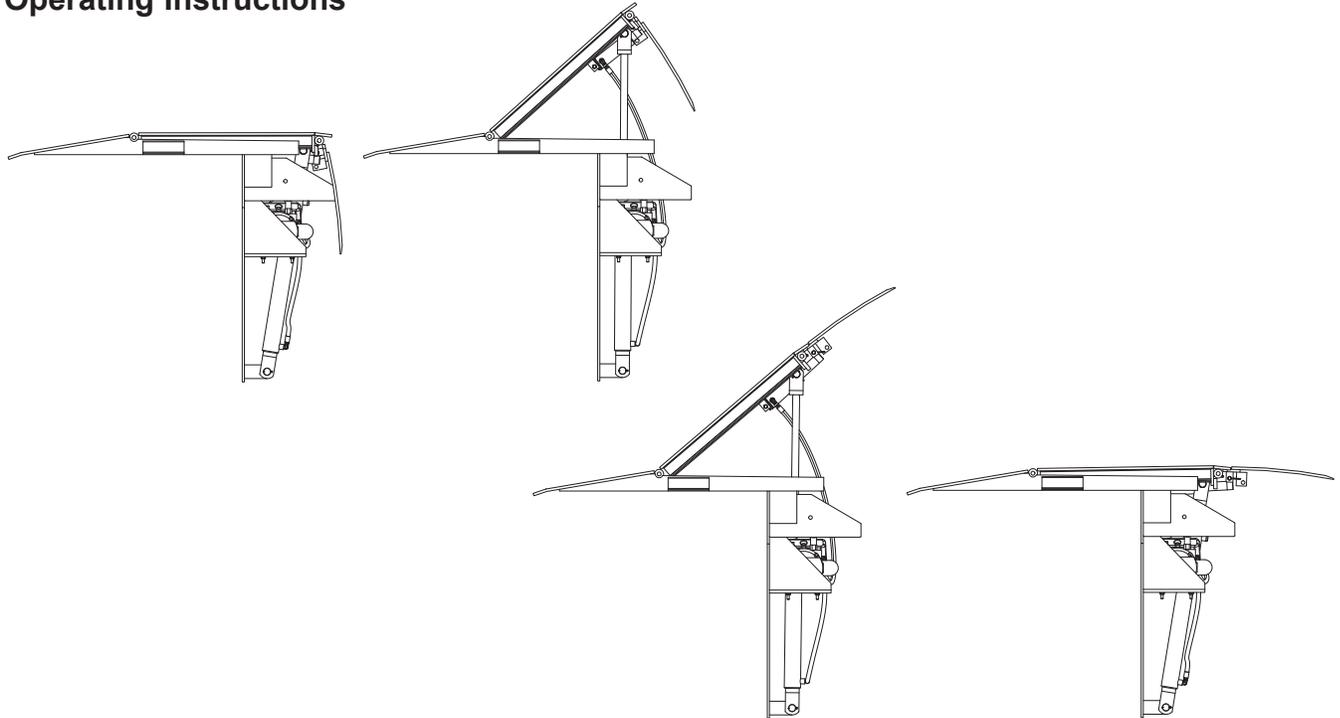

Figure 8
5. Extend the dock leveler onto the transport vehicle as follows (see Figure 8):